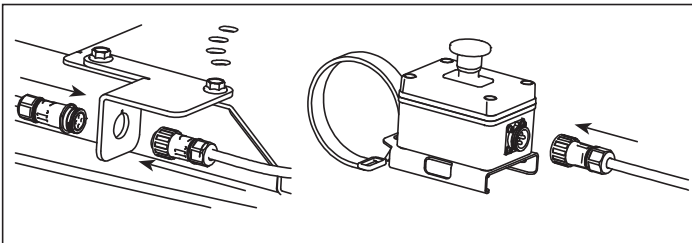

Figure 7
8. Connect wire harness on tongue to clutch control box switch and mower deck. For mower deck connection, place deck harness through protector bracket, then screw tongue harness on. Be sure to align deck harness connection tab with hole on protector bracket. Hold deck harness connector while tightening tongue harness connector. See Figure 7